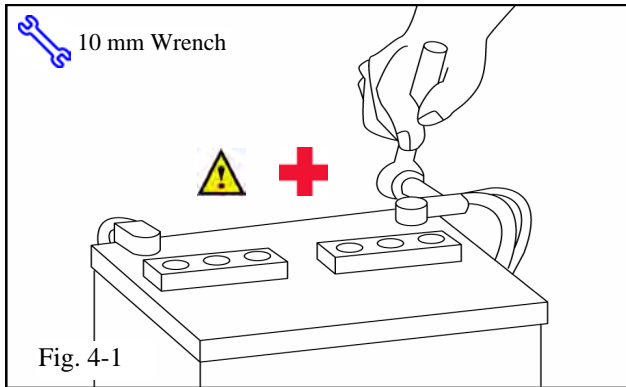

Fig. 4-1
-  (a) Reconnect the vehicle's negative battery cable. (Fig. 4-1)
- (1) Tighten the nut to 4.1 N-m (36 lbf-in).
- (2) Do not touch the positive terminal with any tool when replacing the cable.